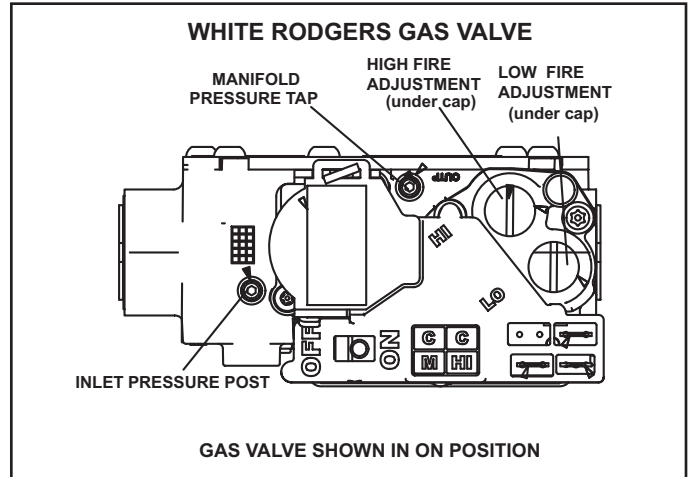

FIGURE 53
Gas Valve Operation (FIGURE 53)
- 6 - Move gas valve switch to **OFF**. See FIGURE 53.
- 8 - Move gas valve switch to **ON**. See FIGURE 53.
An inlet pressure post located on the gas valve provides access to the supply pressure. See FIGURE 53. Back out the 3/32 hex screw one turn, connect a piece of 5/16 tubing and connect to a manometer to measure supply pressure. See TABLE 24 for supply line pressure.
A manifold pressure post located on the gas valve provides access to the manifold pressure. See FIGURE 53. Back out the 3/32 hex screw one turn, connect a piece of 5/16 tubing and connect to a manometer to measure manifold pressure.
- 4 - After allowing unit to stabilize for 5 minutes, record low fire manifold pressure and compare to value given in TABLE 24. If necessary, make adjustment. FIGURE 53 shows location of low fire adjustment screw.
- 5 - Repeat on high fire and compare to value given in TABLE 24. If necessary, make adjustment. FIGURE 53 shows location of high fire adjustment screw.